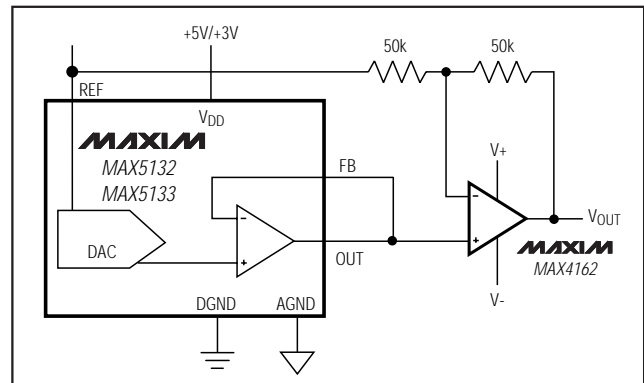

Figure 10. Unity-Gain Bipolar Output Circuit Using Internal (+1.25V/+2.5V) or External Reference. With external reference, pull REFADJ to  $V_{DD}$ .
The MAX5132/MAX5133 can be configured for unity-gain bipolar operation (FB = OUT) using the circuit shown in Figure 10. The output voltage  $V_{OUT}$  is then given by the following equation:
where NB is the numeric value of the DAC's binary input code,  $V_{REF}$  is the voltage of the internal (or external) precision reference, and G is the overall gain. The application circuit in Figure 10 uses a low-cost op amp (MAX4162) external to the MAX5132/MAX5133. Together with the MAX5132/MAX5133, this circuit offers an overall gain of 2V/V. Table 6 lists example codes for bipolar output voltages.
**Table 6. Bipolar Code Table for Figure 10**